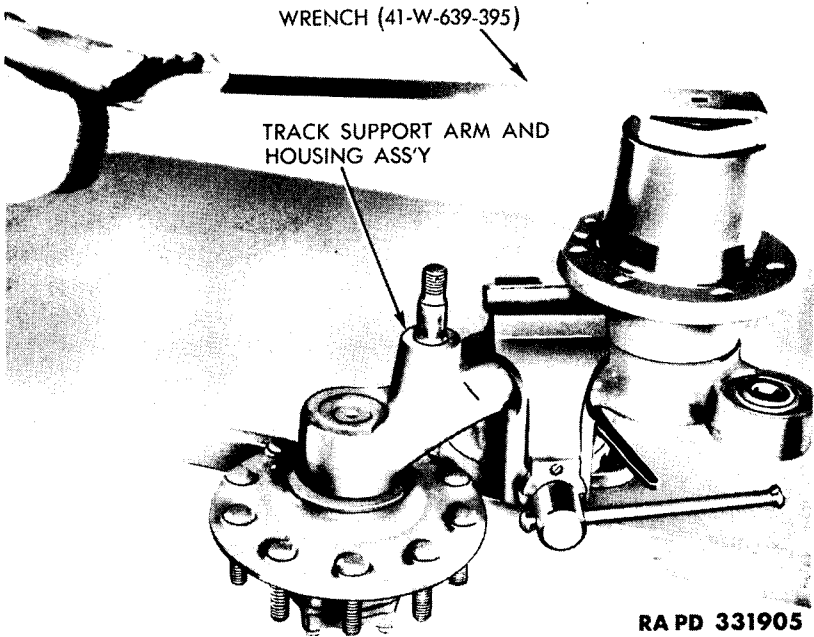

Figure 21. Removing track support arm housing nut.
(3) *Support arm and housing.* Remove seven screws that hold support arm assembly to hull side and lift or hoist arm and housing assembly out of hull opening. Place assembly in vise and remove large nut holding housing to arm assembly, using suspension arm bearing nut wrench (41-W-639-395), (fig. 21). Pry inner oil seal out of housing. Remove inner oil seal locating snap ring. Lift housing and bearings off arm assembly. Slide bearings and spacer out of housing. Remove outer oil seal and snap ring from housing.